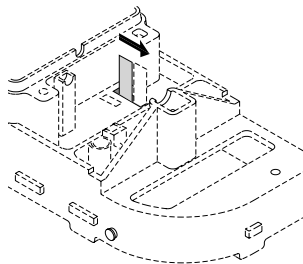

Figure 23
8. The metal ratchet tab slides out of its slot sideways; replace it by removing the center brushes and sliding in a new ratchet tab until it is flush with the edge of plastic holder (Figures 23 and 24). Replace the center brushes.